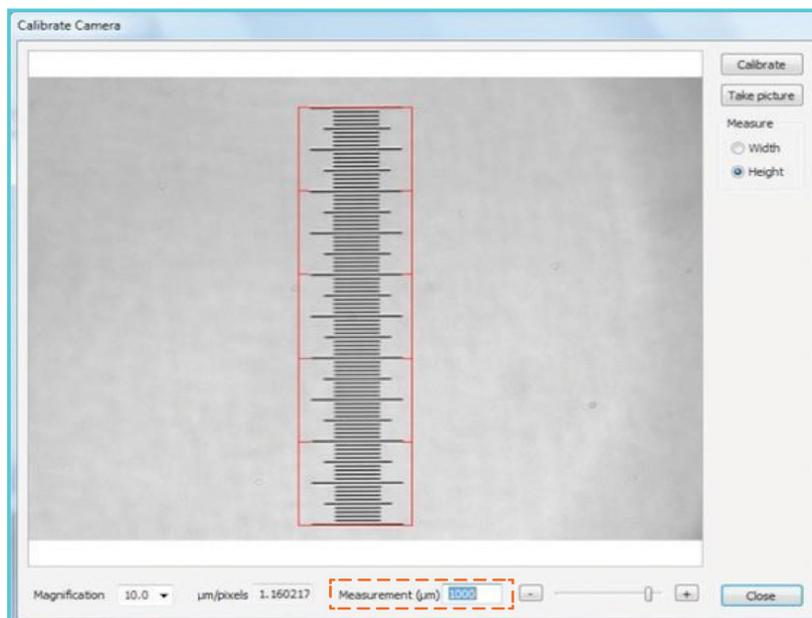

Figure 2.9 Measurement ( $\mu\text{m}$ ) box
6. In the box Measurement ( $\mu\text{m}$ ) (shown in figure 2.9) the camera will now show how many  $\mu\text{m}$  the red box covers. This value should in this case be  $1000\mu\text{m}$ . By resizing the red box, the calibration of the camera can be controlled by reading the number in Measurement ( $\mu\text{m}$ ) when the red box is resized.